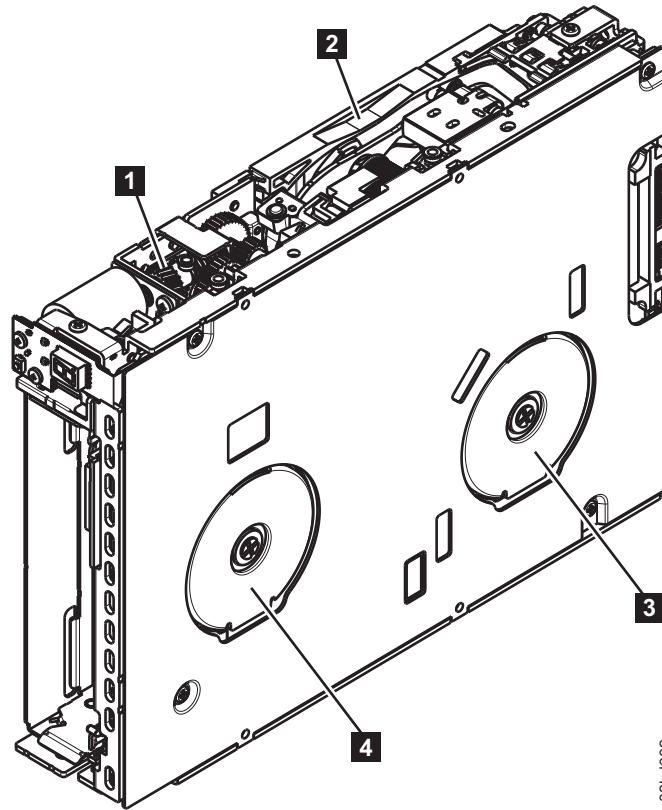

Figure 36. Rewinding tape into cartridge
**Attention: DO NOT TOUCH THE OUTER GUIDE RAIL ( **2** in Figure 36 on page 97). THIS RAIL IS VERY DELICATE AND EASILY DAMAGED.**
- Turn the supply reel ( **4** in Figure 36) clockwise, allowing the moistened tape to adhere to the hub as it winds around the supply reel (inside the cartridge).
- Continue spooling into the cartridge until the tape is taut and remains within the flanges of the tape guiding rollers. Turn the supply reel ( **4** in Figure 36) 10 more turns. Ensure that you do not stretch the tape.